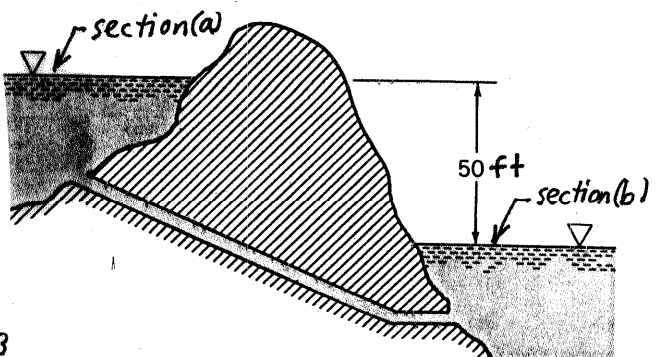

FIGURE P5.116
5.116 Water flows by gravity from one lake to another as sketched in Fig. P5.116 at the steady rate of 80 gpm. What is the loss in available energy associated with this flow? If this same amount of loss is associated with pumping the fluid from the lower lake to the higher one at the same flowrate, estimate the amount of pumping power required.